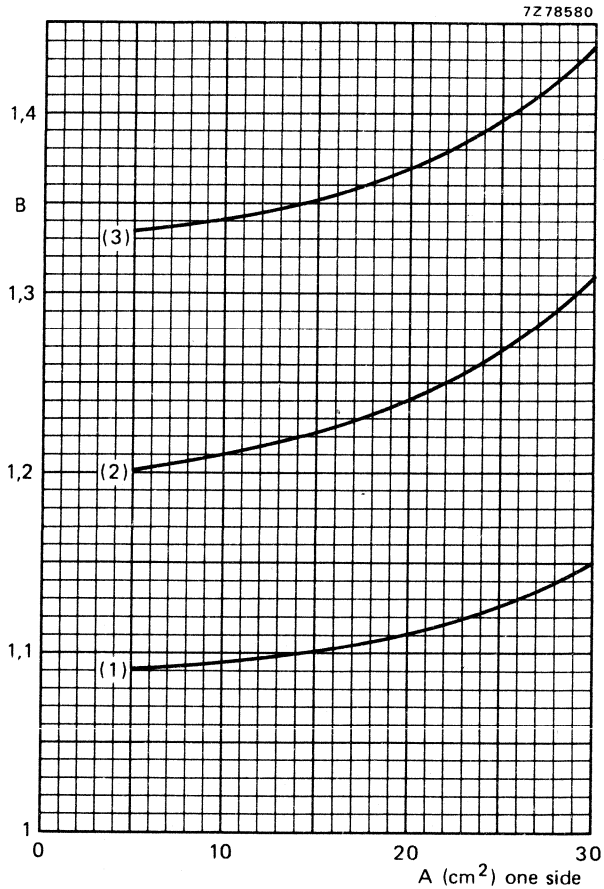

Fig. 1 Multiplication factor (B) as a function of heatsink area (A).
- Multiply by the factor given in Fig. 1 as a function of the heatsink size A .